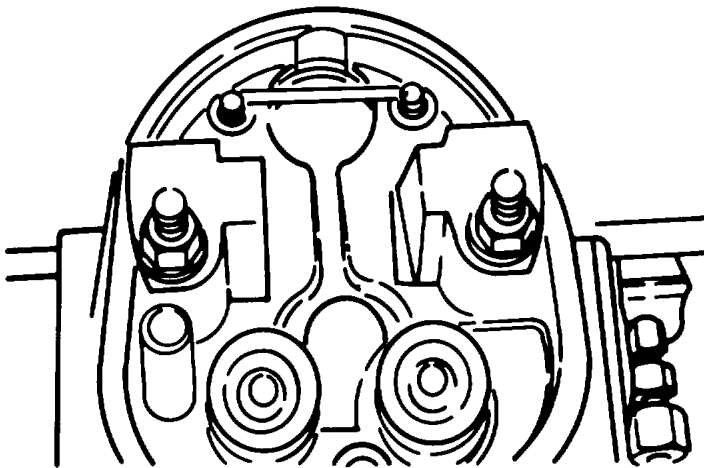

Figure A-58. Push Rod Tube
- (1) Slide the push rod tube down onto the compression release. Install the push rod tube retaining spring in the top of the cylinder head exactly as shown. (Figure A-58.)